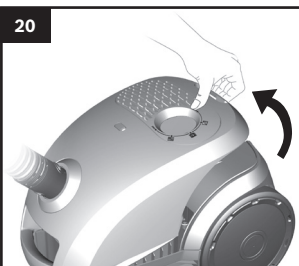

Figure 20
- Empty the container. Figure 20
- Open the dust bag compartment lid. Figure 20
- Open the dust bag compartment lid. **Figure 20**